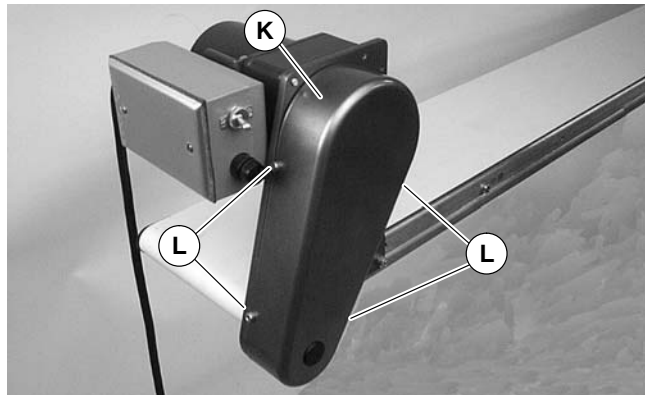

Figure 14
1. Remove four screws (L of Figure 14) and remove cover (K).
4. Install cover (K of Figure 14) with four (4) screws (L). Tighten screws to 35 in-lb (4 Nm).
1. Remove four (4) screws (L of Figure 14) and remove cover (K).
6. Install cover (K of Figure 14) with four (4) screws (L). Tighten screws to 35 in-lb (4 Nm).
3. Remove four (4) screws (L of Figure 14) and remove cover (K).